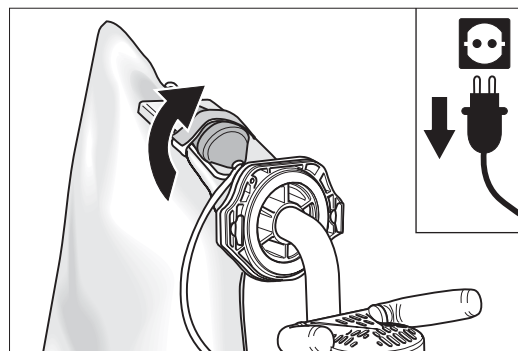

Fig. 13 Remove the coupler from the Velcro loop on the dust bag.
- 3 Remove the extension cable coupler from the Velcro loop on the dust bag (Fig. 13).